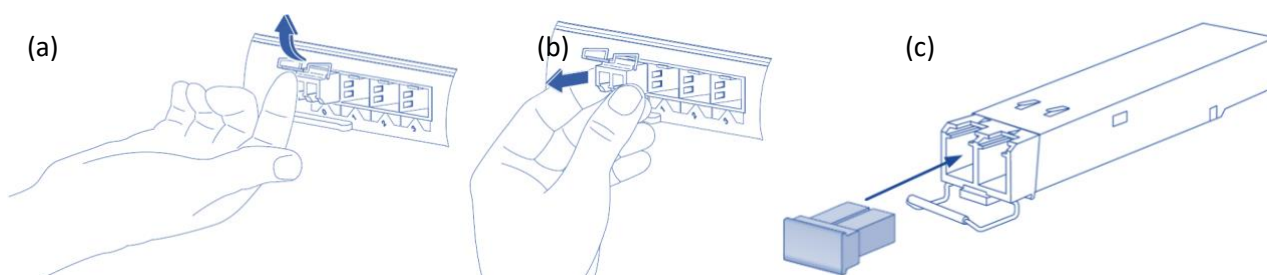

Figure 16 – Removing the SFP+ Module
4. Grasp the module between your thumb and index finger and carefully remove it from the port, as shown in figure 16.